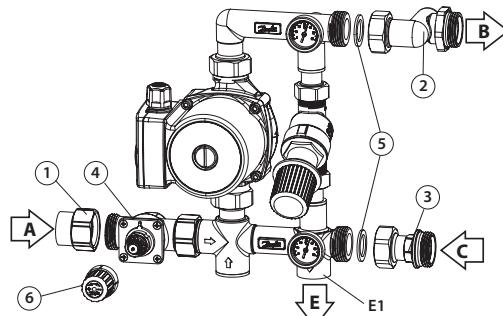

Fig. 2.
1. Remove the union nuts 1, 2 and 3 and gasket 5 from mixing shunt which to be used in steps below, as shown in Fig. 2.
2. Pre-mounted union nut 1 for connection to the primary side supply pipe. The union nut 1 to control valve 4 must be tightened with a torque of at least 85 Nm without any sealing materials, as shown in Fig. 2.
of at least 85 Nm without any sealing materials, as shown in Fig. 2.
3. Pre-mounted union nuts 2 and 3 for connection to the secondary side pipe or directly on a Danfoss manifold. The union nuts 2 and 3 to mixing shunt must be tightened with a torque of 30 to 40 Nm with enclosed flat gasket, as shown in Fig. 2.
5. Remove the blue cap 6, as shown in Fig. 2.